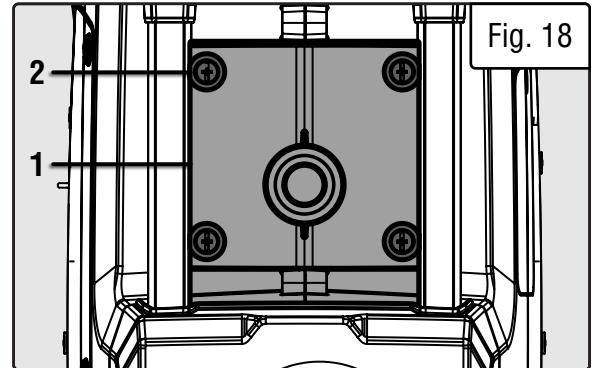

Fig. 18
1. Open the spark plug access cover (Fig. 18 - 1) by removing the four screws (Fig. 18 - 2).